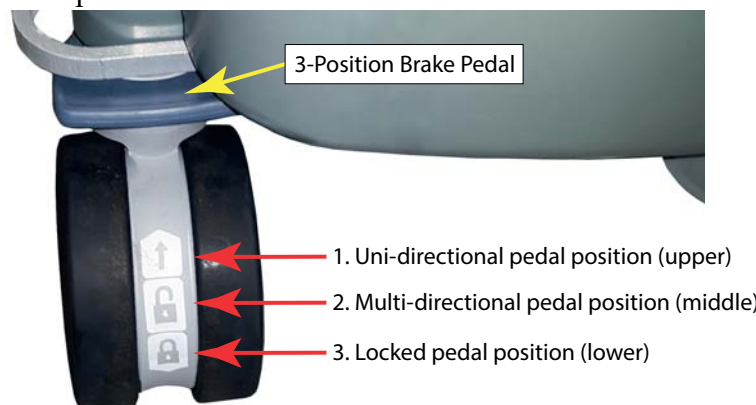

Figure 5: Brake Pedal Configurations
- When pulling the system by the handle, it is recommended to set the front brake pedals to the multi-directions position (see Figure 5), and the rear brakes to the uni-directional position, such that the system will not “swim around” while you are pulling it.